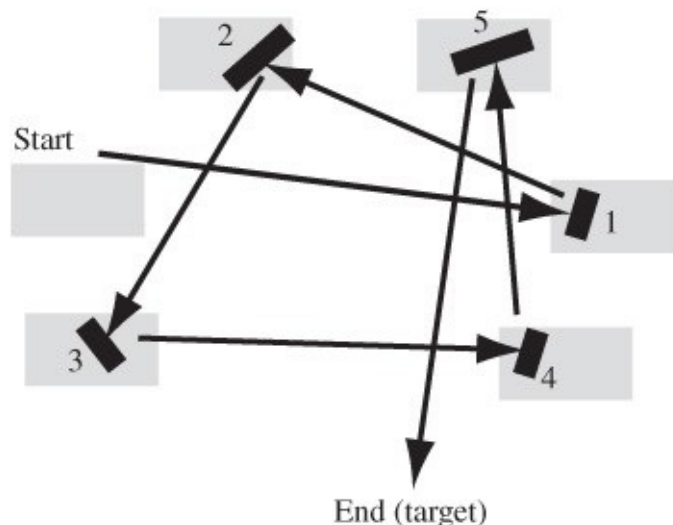

Figure 80-1 *Laser obstacle course.*
11. Continue from one mirror to the next until the last mirror directs the beam to the target, as shown in Figure 80-1.